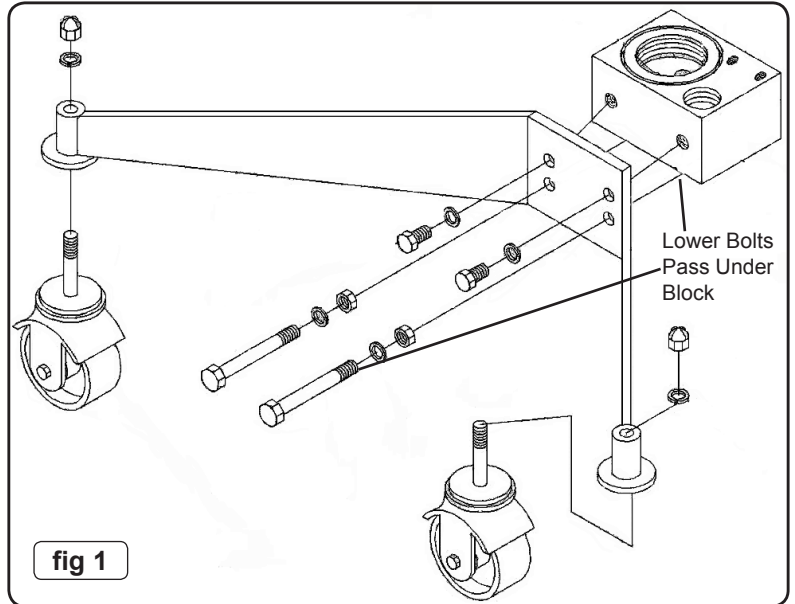

fig 1
- 3.1 Fix hydraulic unit to the 2 base legs with the 4 bolts and associated nuts and bolts (fig 1).
- 3.2 Assemble the four wheels onto the base legs using the 4 nuts and washers (fig 1).